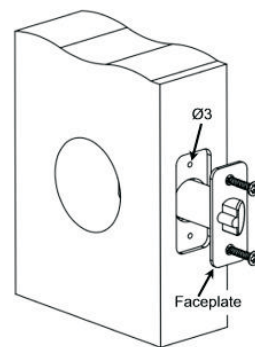

fig. 4
3.2 Use faceplate as a pattern for mortise and pilot hole. The faceplate should fit flush (see fig. 4).